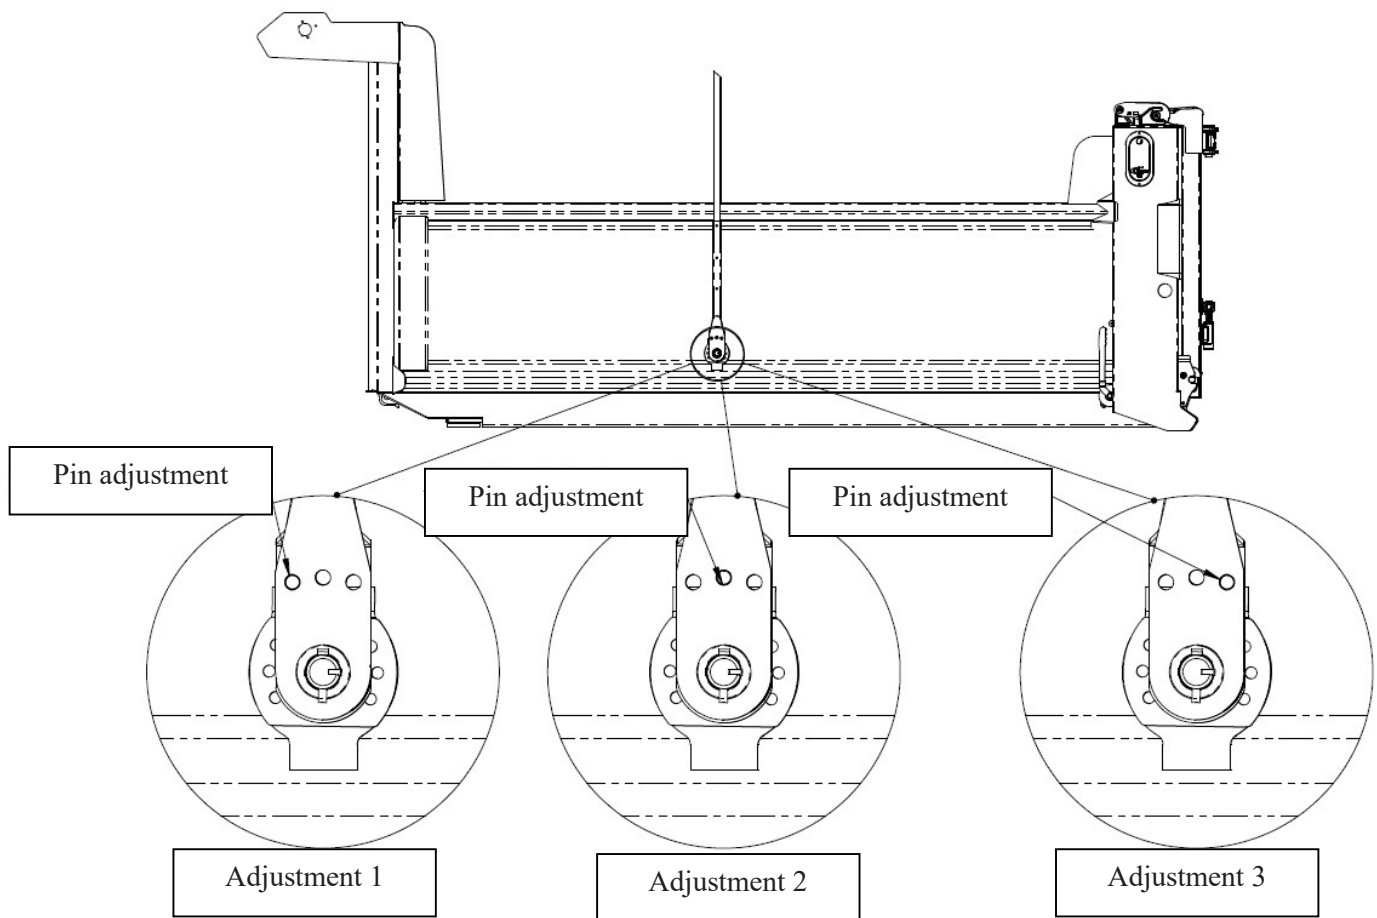

Figure 17 – B.3
Under the dump, weld support (F) center with tube (C). (See figure 17)